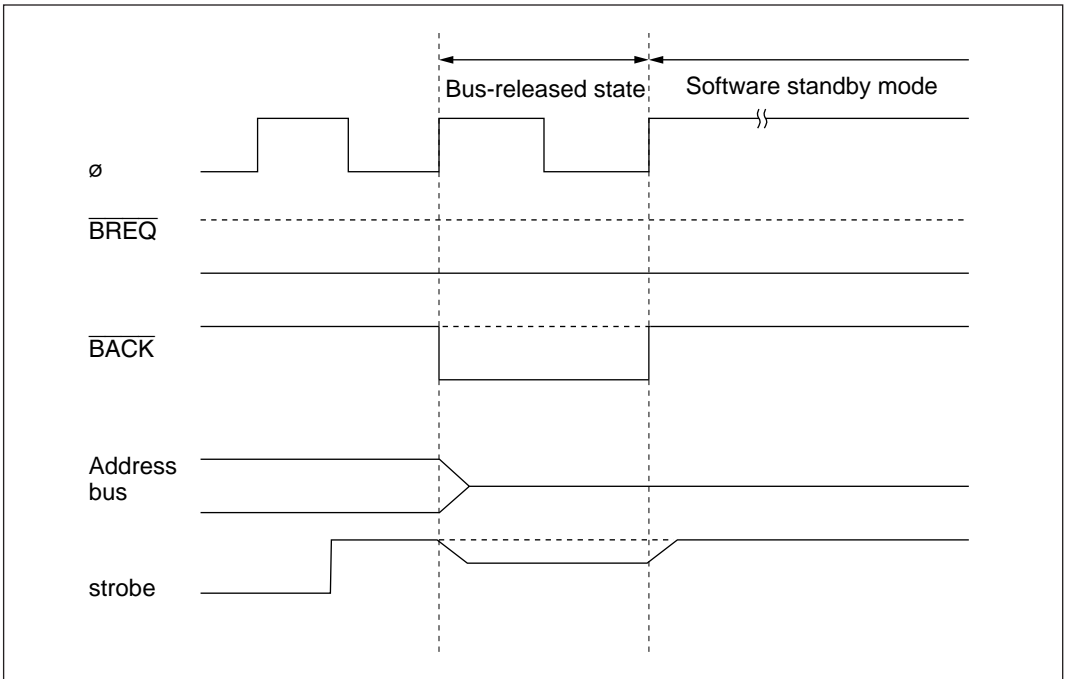

Figure 6-23 Contention between Bus-Released State and Software Standby Mode
- If contention occurs between a transition to software standby mode and a bus request from an external bus master, the bus may be released for one state just before the transition to software standby mode (see figure 6-23). When using software standby mode, clear the BRLE bit to 0 in BRCR before executing the SLEEP instruction.